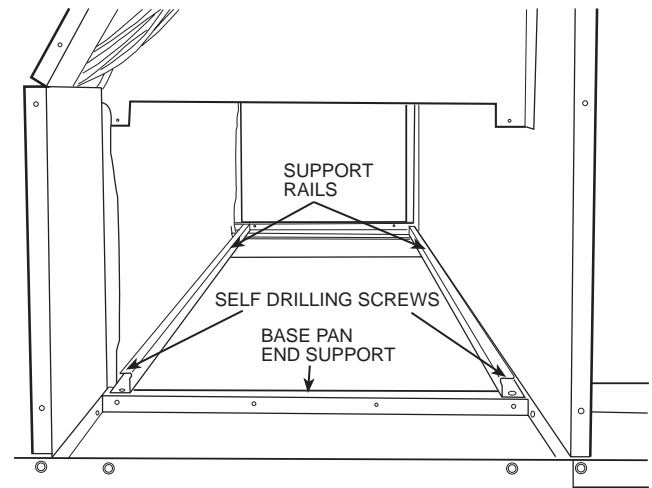

Fig. 4 — Support Rails Installation Details
3. Install support rails along each side of electric heater compartment as shown in Fig. 4. Opening between support rails must be wide enough to allow block-off end plates to fit between them. Using self-drilling screws, secure support rails to basepan end support as shown in Fig. 4.